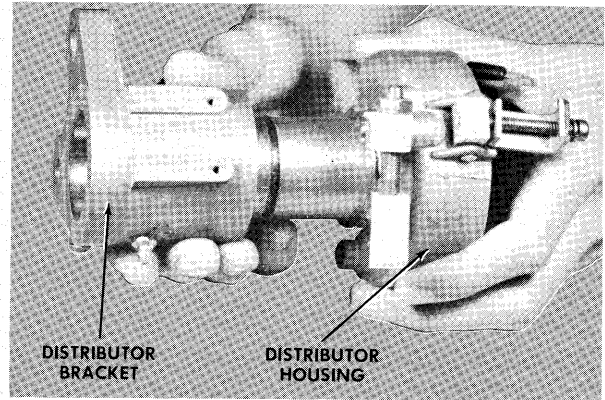

Figure 6 – Installing Distributor Bracket
- A. Install new distributor bracket on distributor housing as shown in figure 6.